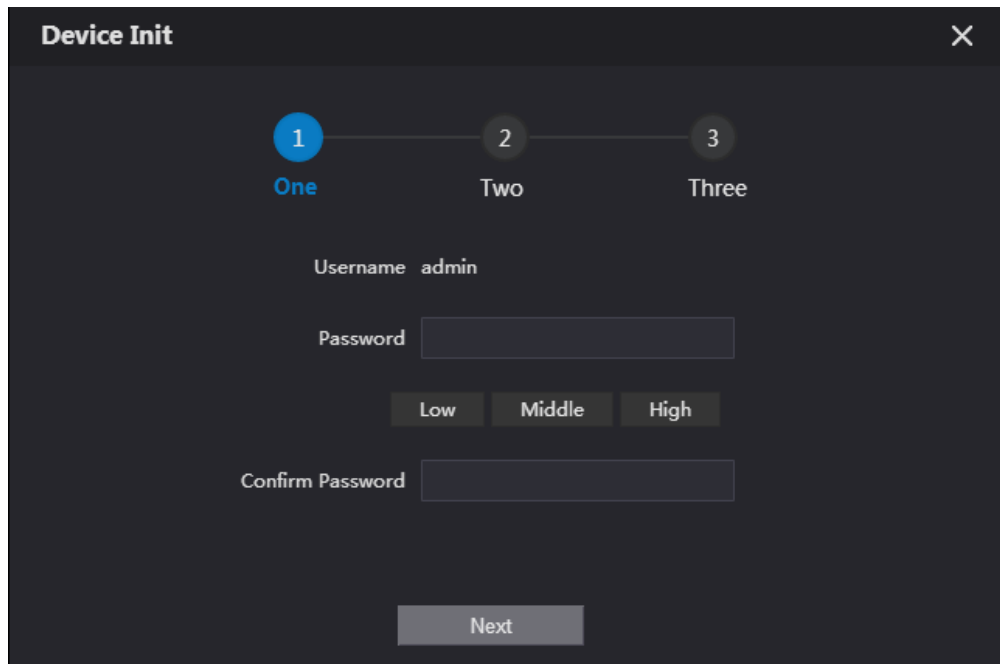

Figure 2-4
**Step 1** Power on the device, and enter default IP address of VTO at the address bar of PC browser. The system displays “Device Init” interface, as shown in Figure 2-4.